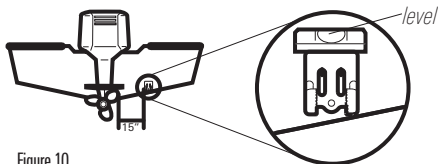

Figure 10
- As the boat moves through the water, turbulence is generated by the weight of the boat and the thrust of the propeller(s) - either clockwise or counter-clockwise. This turbulent water is normally confined to areas immediately aft of ribs, strakes or rows of rivets on the bottom of the boat, and in the immediate area of the propeller(s). Clockwise propellers create more turbulence on the port side. On outboard or inboard/outboard boats, it is best to locate the transducer at least 15" to the side of the propeller(s) (Figure 10).
Find a turbulence-free location at least 15" from the propeller(s) and not in line with trailer bunks or rollers. (Figure 10).